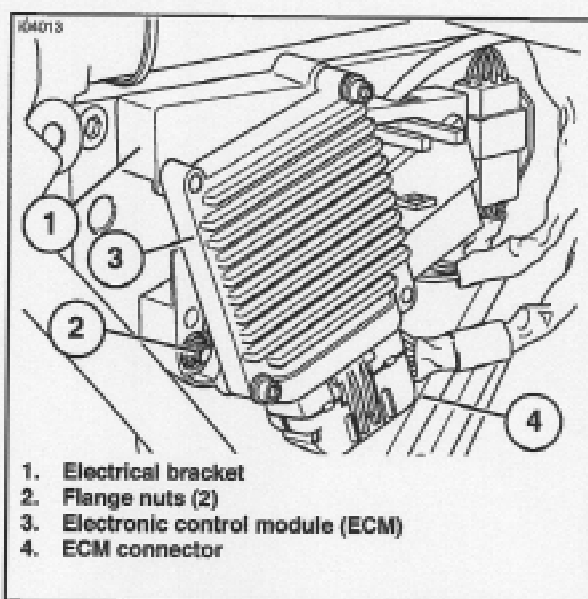

Figure 6. Electrical Bracket (Touring Models)
3. See Figure 6. Remove the two flange nuts (2) from the electrical bracket (1). Pull the bracket assembly, with the electronic control module (ECM) and connector attached, away from the side of the battery box.